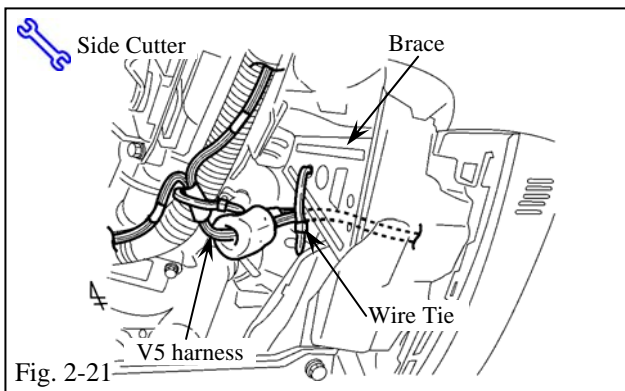

Fig. 2-21
- (z) Route the V5 harness toward the center cluster area, then secure it to the driver side metal brace with one wire tie. (Fig. 2-21)